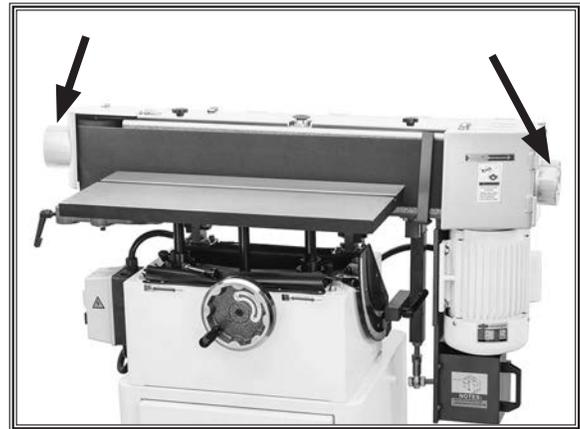

Figure 11. W1845 dust ports.
There are two 4" dust-collection ports for the sander that should be connected to a dust collector. The port locations are shown in **Figure 11**.
1. Use 4" diameter hose and clamps to connect a dust-collection system to your dust ports (see **Figure 11**).